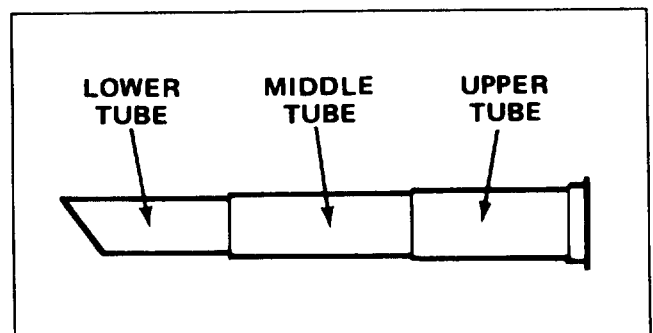

Figure 3
3. Slide tubes together as shown in Figure 3.